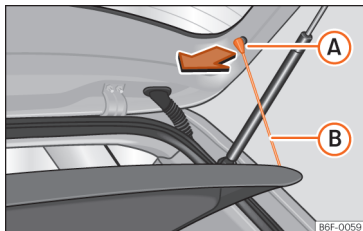

Fig. 167 In the boot: removing and installing the shelf.
- Detach the cord loops >>> Fig. 167 **B** from their hooks **A**.
- Attach the securing straps >>> Fig. 167 **B** onto the rear lid.